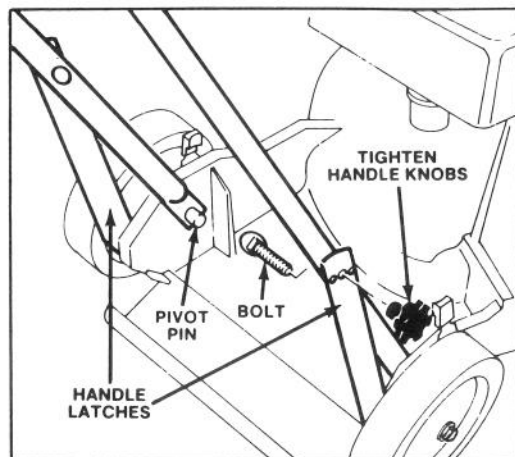

Figure 1
1. LOWER HANDLE (Fig. 1) — Push ends of lower handle together and install on pivot pins. Insert bolts through hole in handle latches and install handle knobs. Tighten securely. Assure control cable is to the rear and inside of handle.